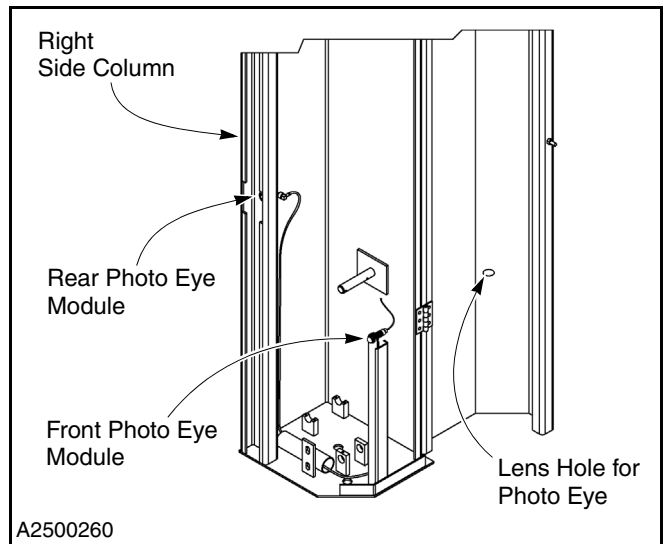

Figure 44
3. Open the side column covers and locate the front set of photo eye modules. At the factory, they were mounted on a tall, heavy-duty bracket that is located in the front, inside corner of each side column. (See Figure 44.)